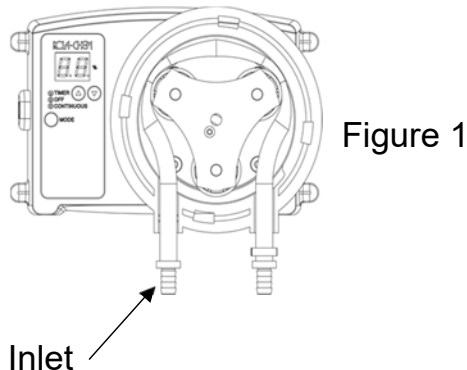

Figure 1
2) Toggle the MODE Button intermittently between TIMER, OFF and CONTINUOUS settings to move Roller to position as shown in Figure 1 then switch OFF. Roller will rotate clockwise when MODE is set to CONTINUOUS or TIMER.
3) Pull lower left end of Pinch Tube Assembly out of inlet port (as noted in Figure 1) and continue to pull away from Roller. Toggle the MODE Button intermittently between TIMER, OFF and CONTINUOUS to move Roller. Keep fingers away from rotating parts. Tube will be released as Roller rotates.